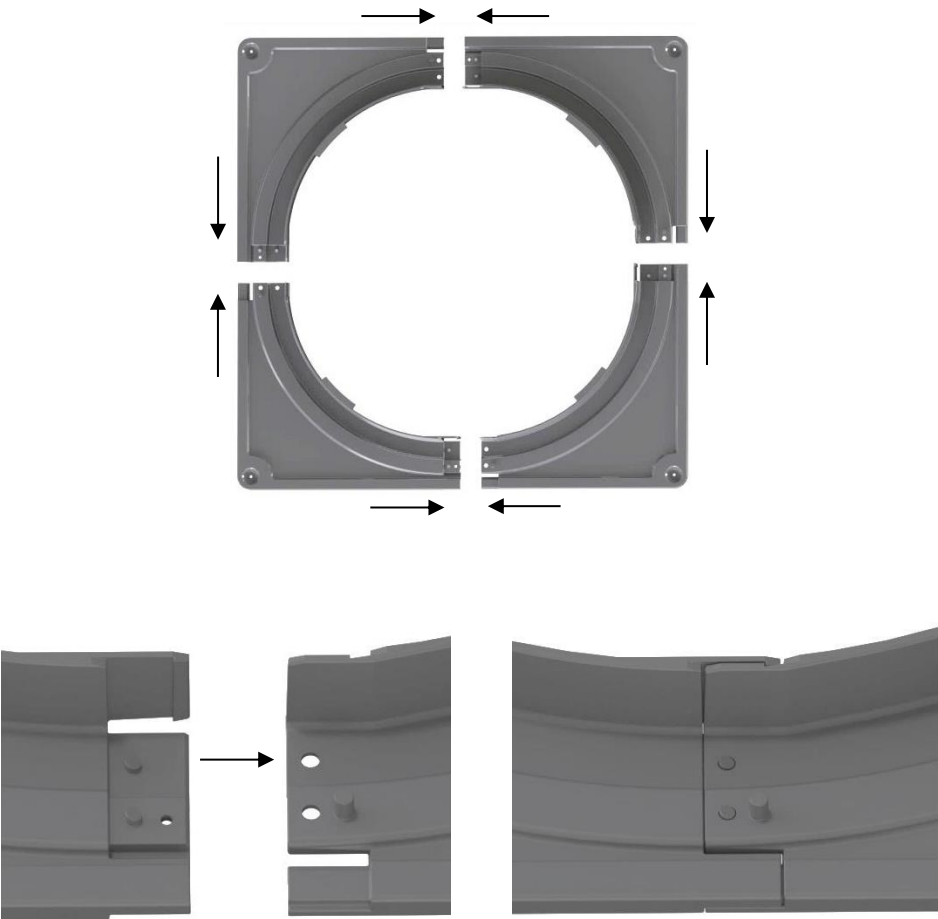

Figure 7: Assembly of base flange
- 1.) Assemble base flange by interlocking the four sections as shown in Fig. 7 below: